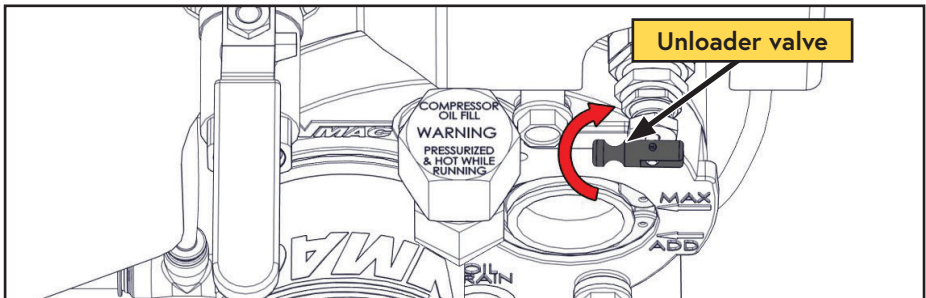

Figure 23 — Unloader valve
- Release the tension on the unloader valve (Figure 23).